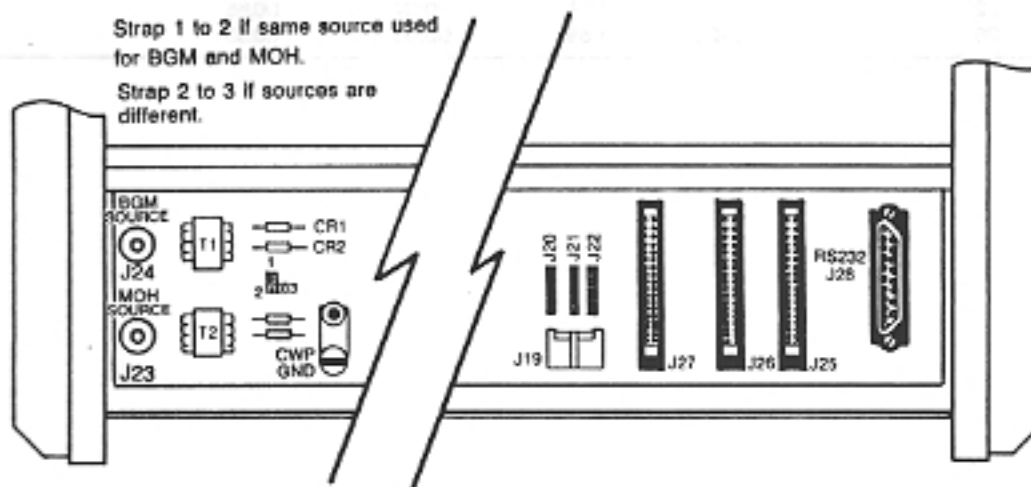

Figure 9-3 KSU CONNECTIONS FOR OPTIONAL EQUIPMENT, TCX-128
3.16 The SMDR terminal is plugged into J28, the RS232C port in the KSU ( Figure 9-3 ). Hardware ( switch ) adjustments should be made during installation of the B-CPU-B PCB ( Section 5, INSTALLATION ).